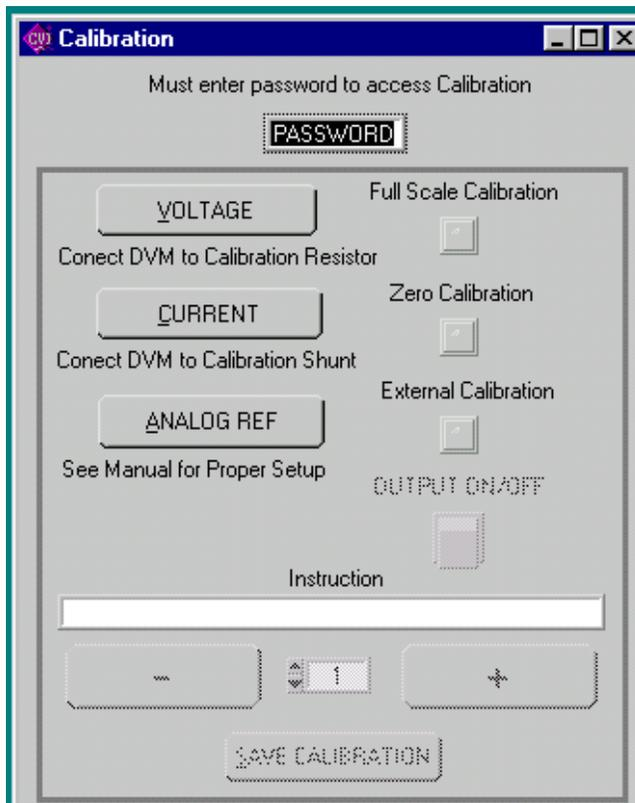

FIGURE 6. CALIBRATION WINDOW
2.2.6 The **Calibrate** button opens the Calibration Window (Figure 6), and is used to recalibrate the unit (see Section 4 of the KLP Technical Manual).